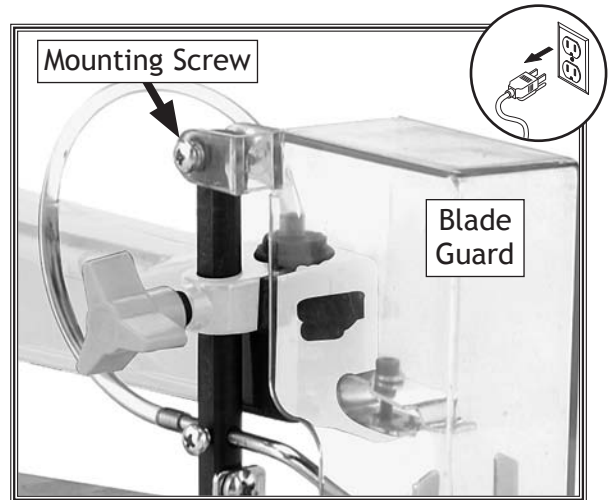

Figure 4. Blade guard properly installed.
2. Use the pre-installed Phillips head mounting screw, hex nut, and washers to install the blade guard onto the top of the hold-down shoe rod, as shown in Figure 4.